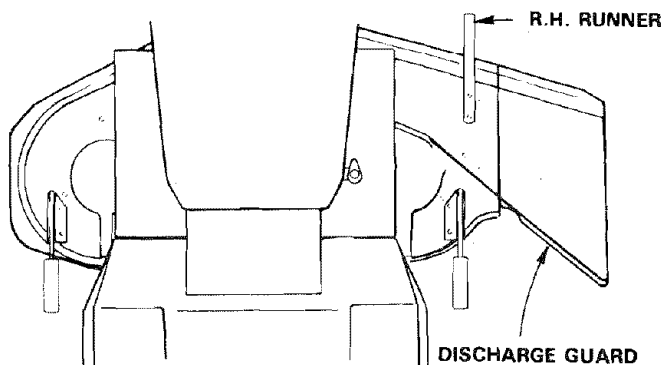

FIGURE 17
- a. Use the runner on the R.H. side as a guide; the blade cuts approximately an inch outside the runner (Fig. 17).